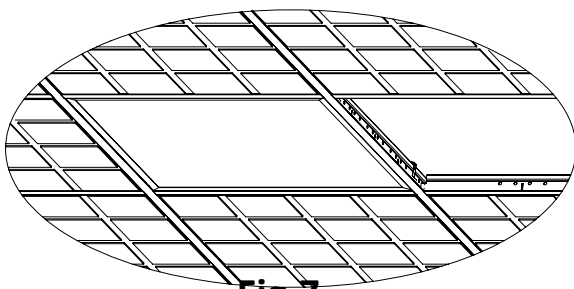

Fig.7
- Insert the backlit panel into the ceiling grid (Fig. 7)